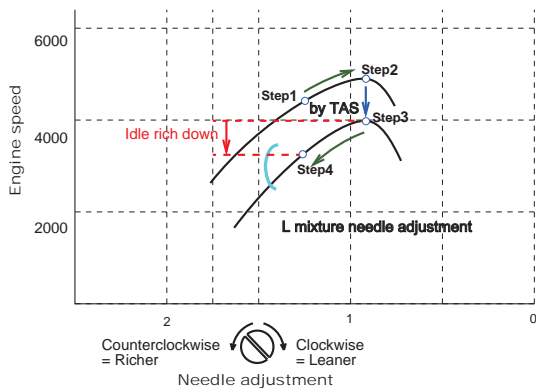

Fig.1: Idle setting
B. Idle setting Fig.1
Refer to column "Idle setting: Fig.1" on **SERVICE DATA Reference No. 90-ZCx-xx.**
Step 3: Set idle speed to the value listed in column "Idle setting: Fig.1 Steps 2 & 3" by turning throttle adjust screw. Engine speed should be stable within +/- 50 r/min after throttle adjust screw adjustment.
Step 4: Turn L mixture needle counterclockwise reducing engine idle speed to the value in column "Idle setting: Fig.1 Step 4".